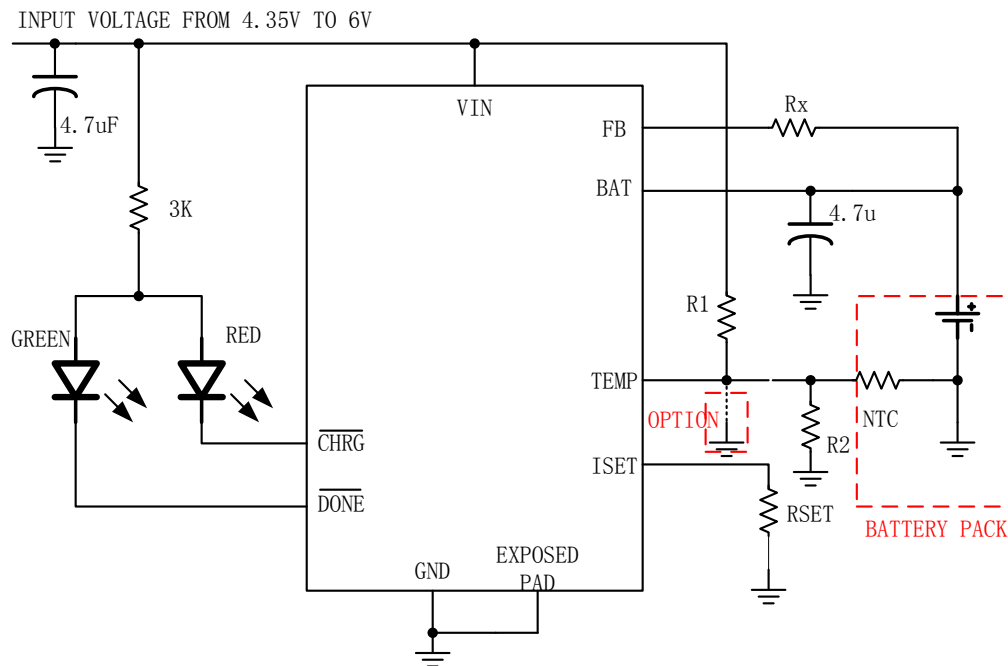

Figure 3.
If connect a resistor between the XT2051 battery voltage Kelvin test input pin (FB) and the positive battery , it can increase the battery charging voltage, as shown in Figure 3, then the positive battery voltage Vbat is:
XT2051 can not only use USB interface to charge the battery, users can also use a wall adapter to charge the battery. Figure 3 shows the same time using the USB interface and the AC adapter to charge the battery through the XT2051 .when the two co-exist, the AC adapter has priority. M1 is the P-channel MOSFET, M1 is used to prevent current from a wall adapter into the USB interface, Schottky diode D1 prevents the consumption of energy through the 1K resistor.